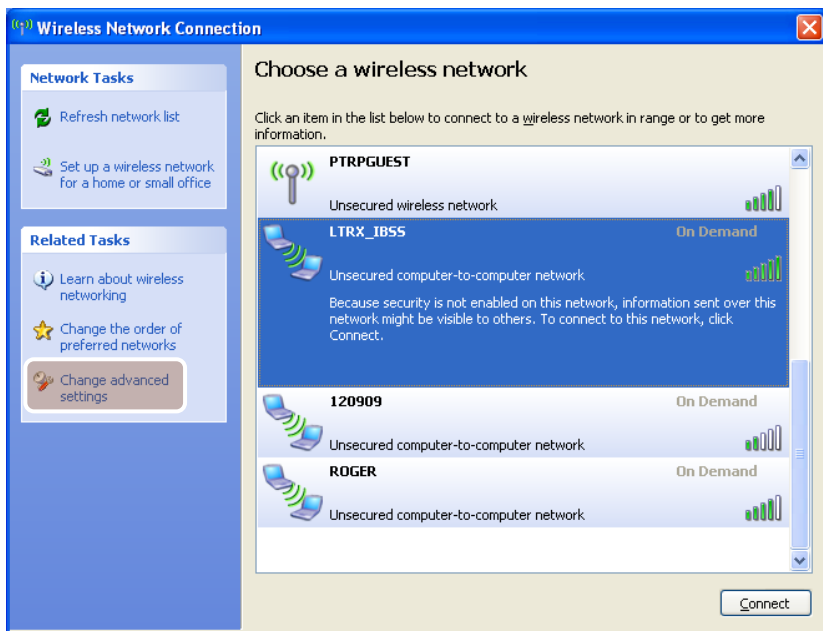

Figure 48
- On the left side of the dialog, click the **Change Advanced Settings** link (see highlighted box in Figure 48 above).